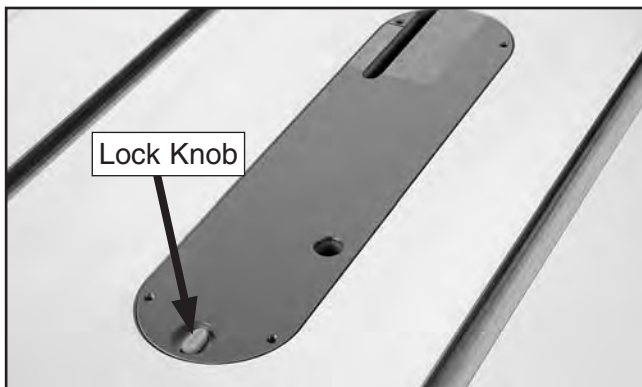

Figure 26. Insert lock knob unlocked.
22. Turn the lock knob that secures the table insert so it is parallel to the inner slot, as shown in **Figure 26**, then remove the insert and set it aside.